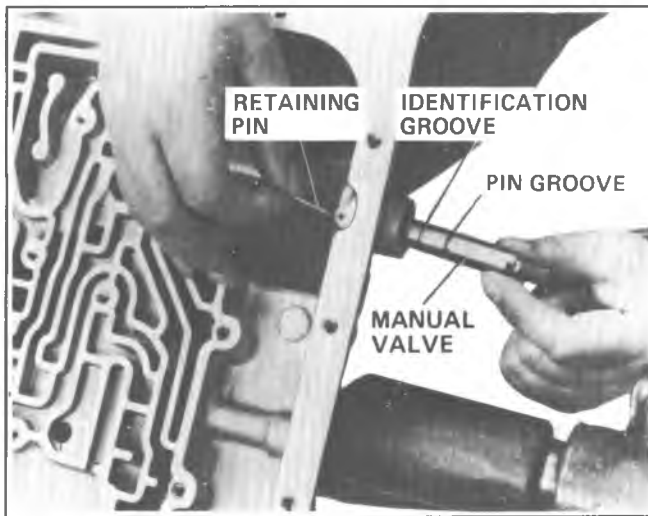

Fig. 7A-57A--Installing Manual Shaft Into Case
11. Install manual shaft, small identification ring groove first, through case. Install manual shaft to case retaining pin, indexing with larger groove on manual shaft (Fig. 7A-57A).